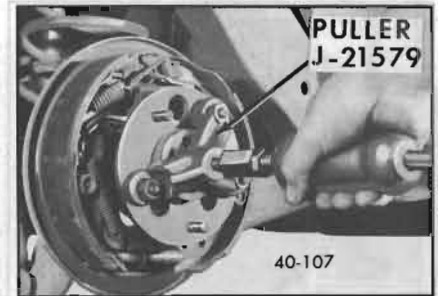

Figure 40-145--Removing Rear Axle Shaft
4. Pull out axle shaft assembly using Puller J-21579 with a slide hammer. See Figure 40-145.